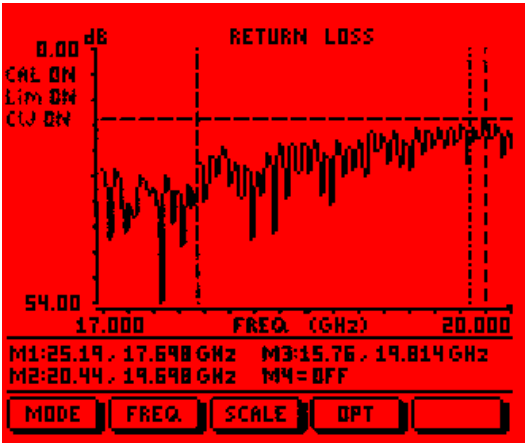

Figure 3-7. Cable Return Loss Measurement Results
Step 20. Observe the display measurement. Figures 3-7 and 3-8 show the typical Return Loss and SWR measurement results. (Note that markers and limit lines are activated in the example displays.)
Figures 3-7 and 3-8 (page 3-13) show the typical Return Loss and SWR measurement results with Markers and Limit Line activated.